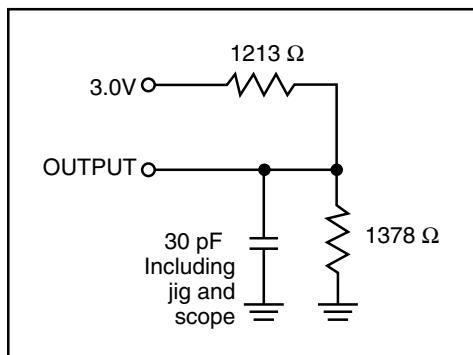

Figure 1.
- Test conditions assume signal transition times of 5 ns or less, timing reference levels of 1.3V, input pulse levels of 0.4V to 2.2V and output loading specified in Figure 1.
| Output Load | See Figures 1 and 2 |